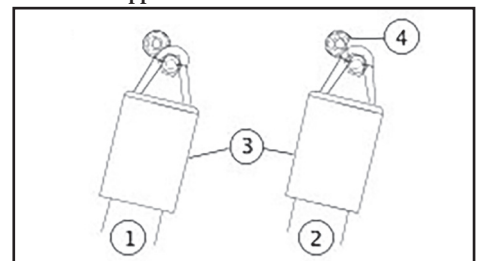

Figure 6. Position of Docking Point Notch
- f. See **Figure 6**. Rotate bushing notch (4) into the “correct” position (1).